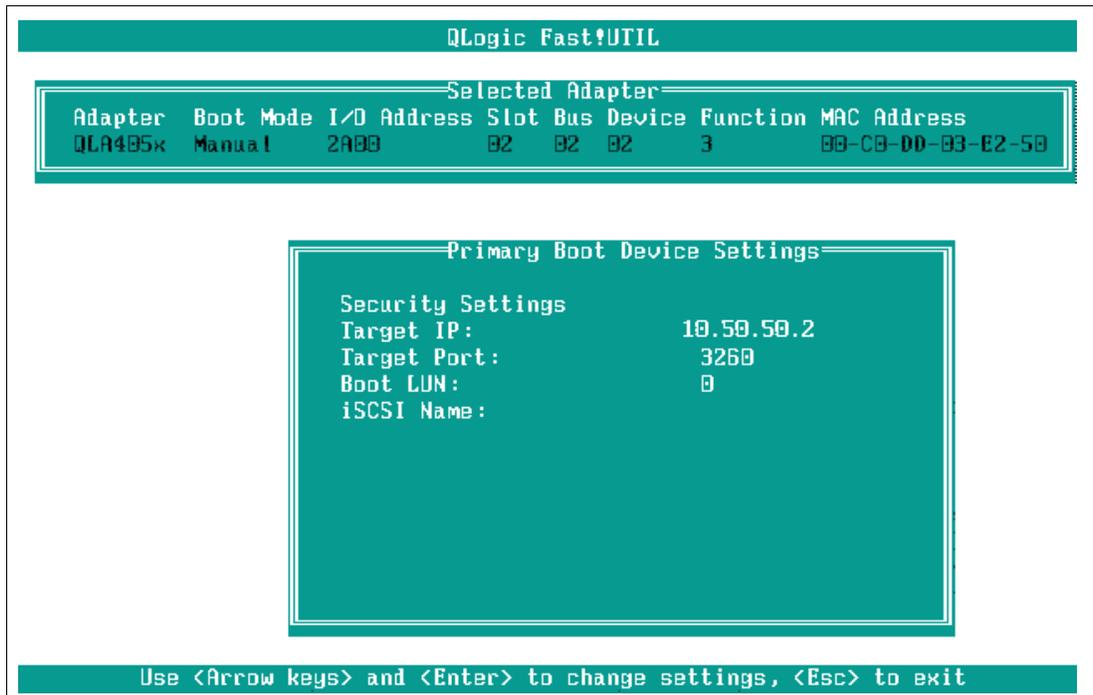

Figure 2-16 Primary Boot Device Settings window
8. Also, as in Figure 2-15 on page 22, select **Primary Boot Device Settings**. You will see a window similar to Figure 2-16.